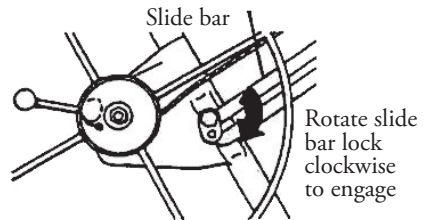

Fig. 6
- Press the winch assembly slightly back toward the frame. This automatically engages the slide bar lock to keep the winch fully extended. (Fig 6)